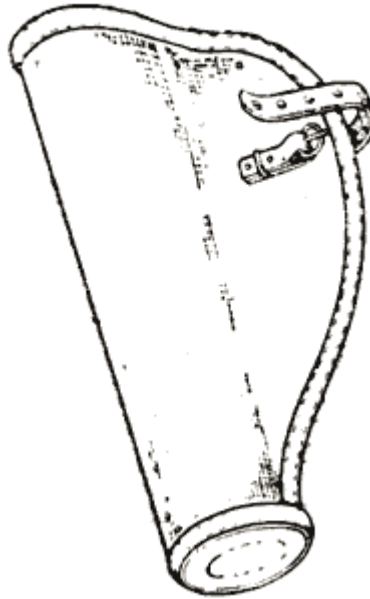

Fig. 6. Slip cover for sight.
1.3.2. The sniper optical sight is delivered complete with a slip cover (Fig. 6) and individual SPTA set (Fig. 11).